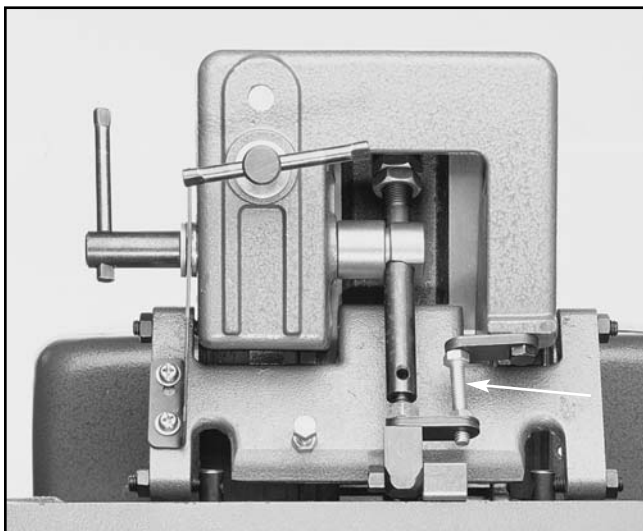

Figure 21. Location of the fence's positive stop bolt.
3. Tighten the checknut on the stop bolt and tilt the fence forward, then back against the stop. **See Figure 21.**